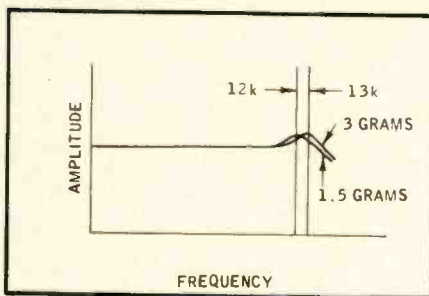

Fig. 2. Frequency response of Shure M33-7 cartridge using test records of different speeds — all other conditions identical.
At the end of the recording session we obtain a tape with two totally independent channels containing separately the lecturer's address and the questions or reactions from the audience. Making the two tracks visible, a condensed piece of two-track tape would appear as in Fig. 2. (Two tracks of a four-track machine would serve equally well, of course.)
1. **Record Speed.** Many cartridges exhibit a resonance in the frequency response in the range between 10,000 and 20,000 Hz. In some cases, it is found that the frequency and amplitude of this resonant peak is affected by record speed. For example, a 78-rpm test record will usually provide a response with a resonant peak at a higher frequency than will a 33 1/3 test record (Fig. 2). The speed of the record may also affect the amplitude of this resonance peak. It is important, therefore, to define the rotational record speed and the radius from the center of the record to the stylus.